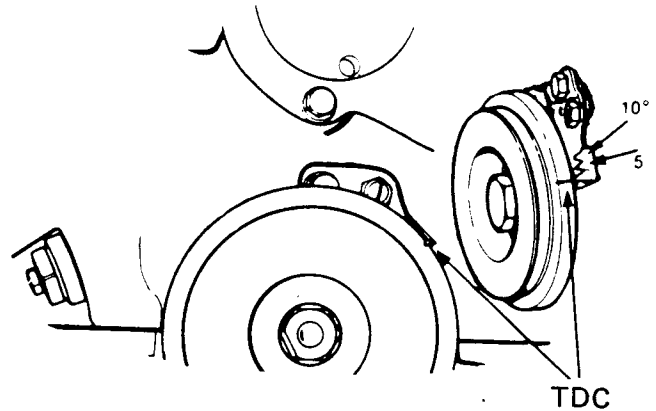

Fig B4.98
- (5) Refer to Fig B4.98. Loosen the harmonic balancer bolt (1) using special tool 18G98A.
- (6) Set the crankshaft pulley timing mark to the TDC position with No 1 cylinder firing.